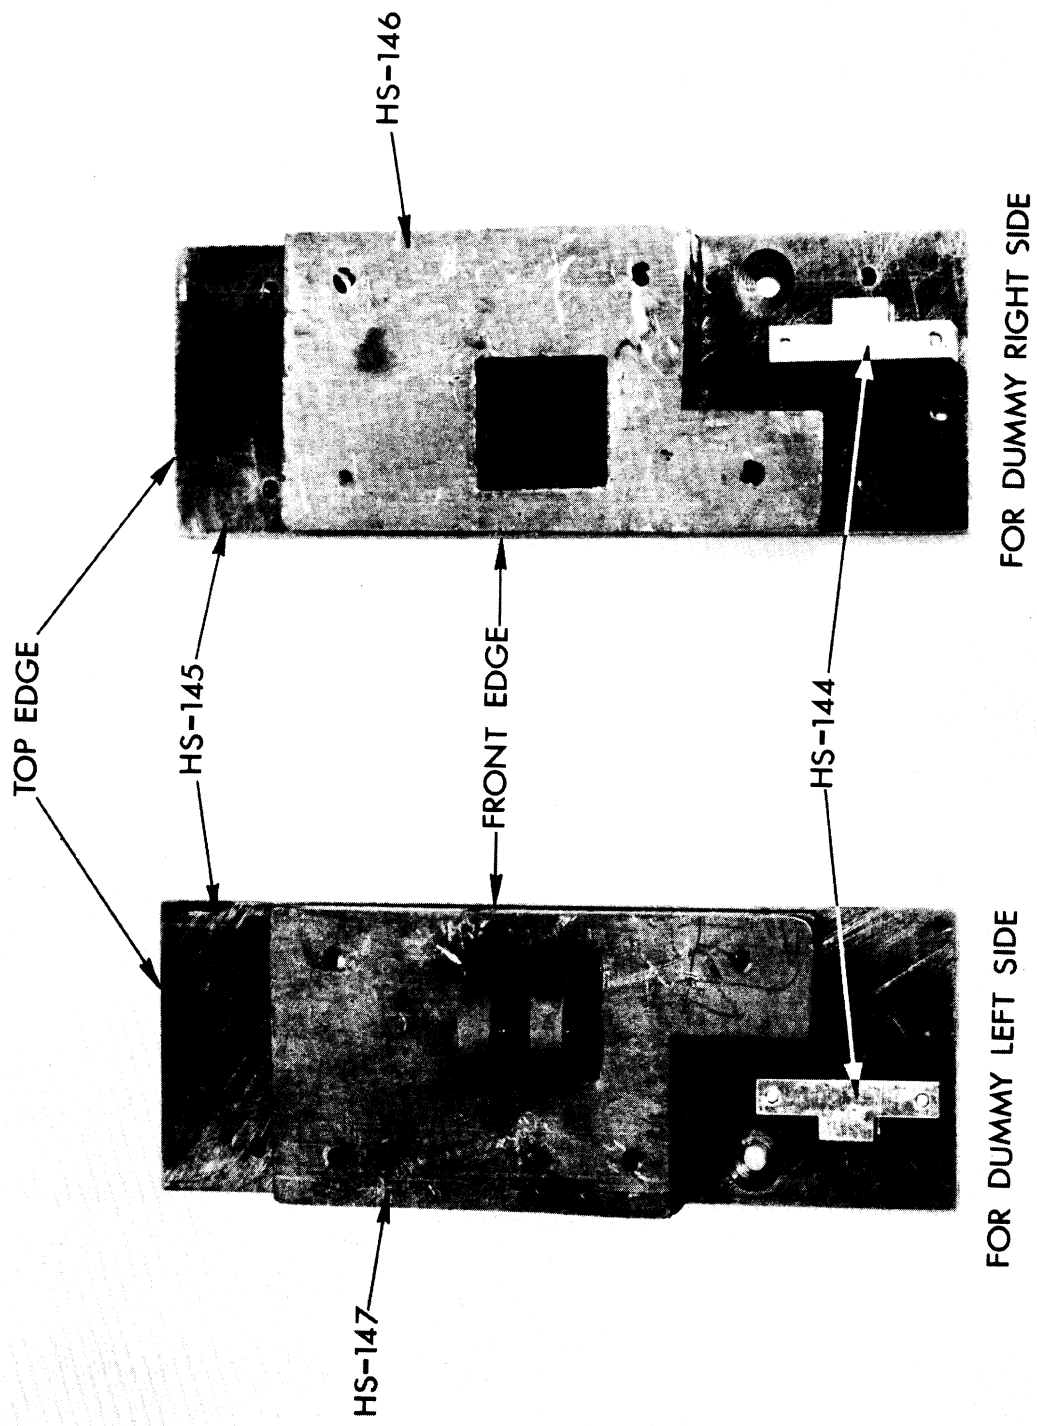

FIGURE 9
10.) The rib bar ballast weights reattach to the rib bars exactly as previously installed and as seen in Figure 9.